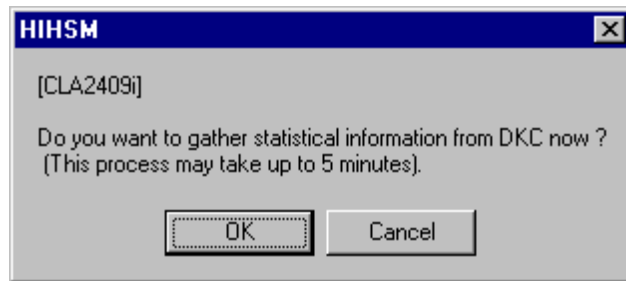

Figure 4.1 Launching HIHSM
4. HIHSM now asks if you want to gather (load) the statistical information (monitor data) from the subsystem (DKC = disk controller) (see Figure 4.1). If you have already started HIHSM monitoring, select **OK** to load the monitor data. If you have not yet started HIHSM monitoring, select **Cancel** to go directly to the HIHSM Main panel.